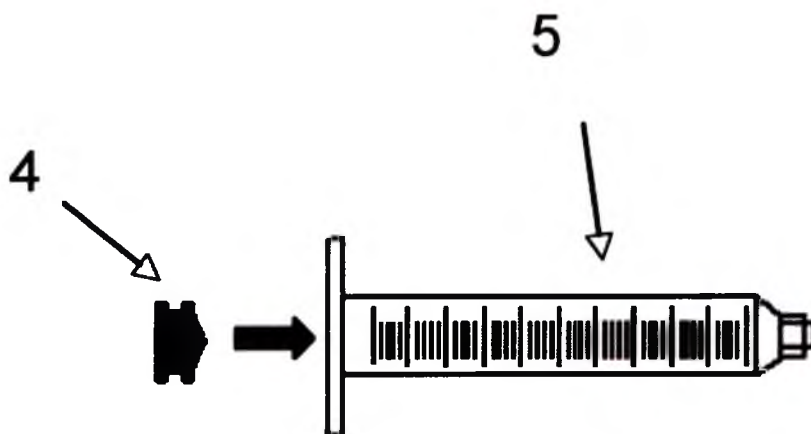

Figure 4.19. Viscous Fluid Extraction Setup.
4. Place the black piston into the syringe barrel and use the plunger to push the piston all the way down to the tip of the syringe. (Refer to Figure 4.19 and Figure 4.20.)